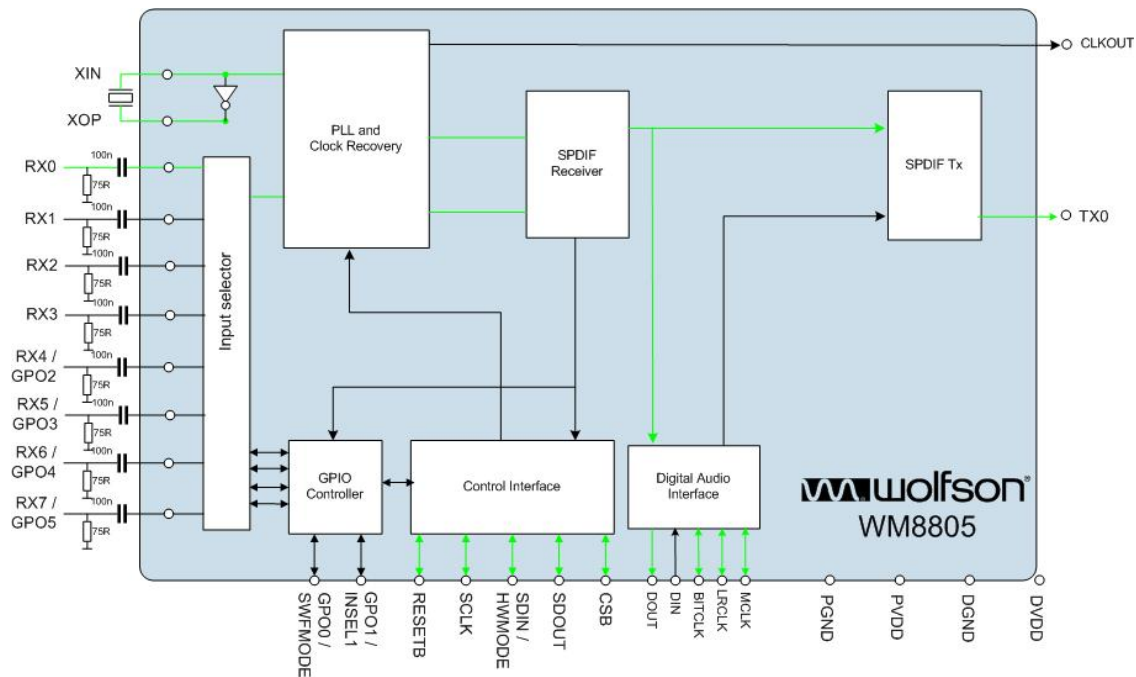

Figure 3 S/PDIF RX0 Input to S/PDIF TX0 Output Block Diagram
- Figure 3 illustrates the data path.